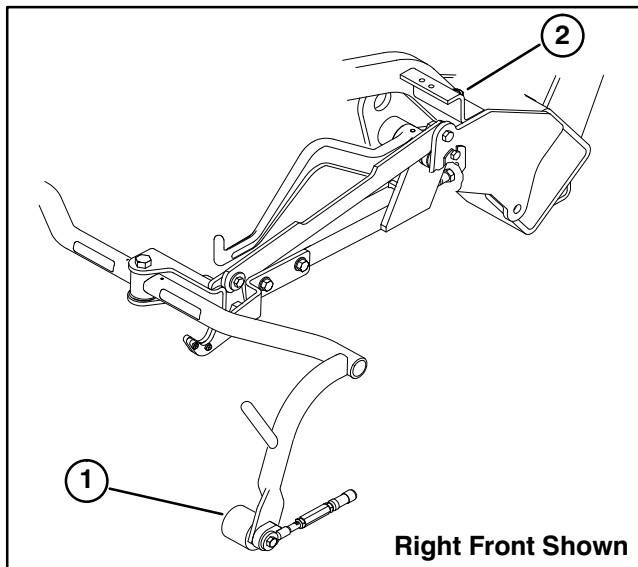

Figure 8
ADJUSTING CARRIER FRAME ROLLERS (Fig. 8)
3. If an adjustment is required, loosen jam nut on carrier frame stop screw (Fig. 8) and rotate screw up or down to raise or lower carrier frame. Tighten jam nut after adjustment is attained.